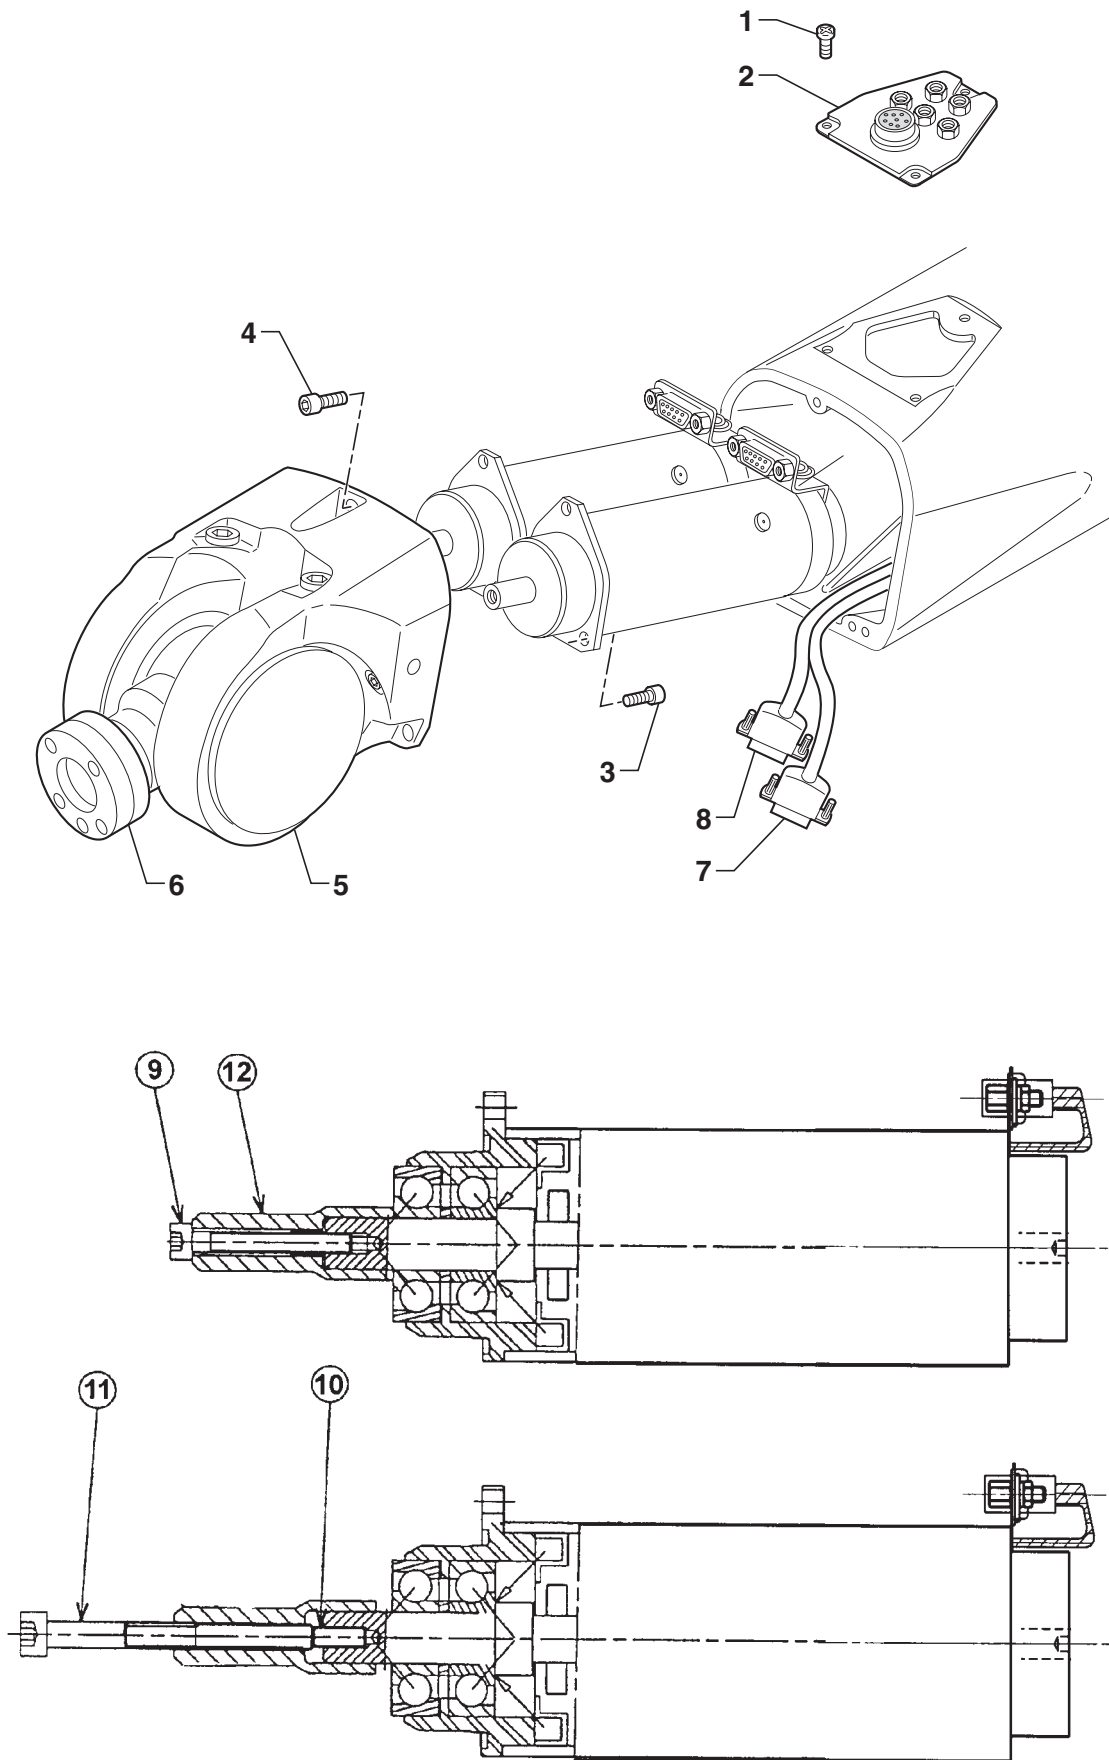

Figure 6.9
6.2.5. JOINTS 5 AND 6 (figure 6.9)